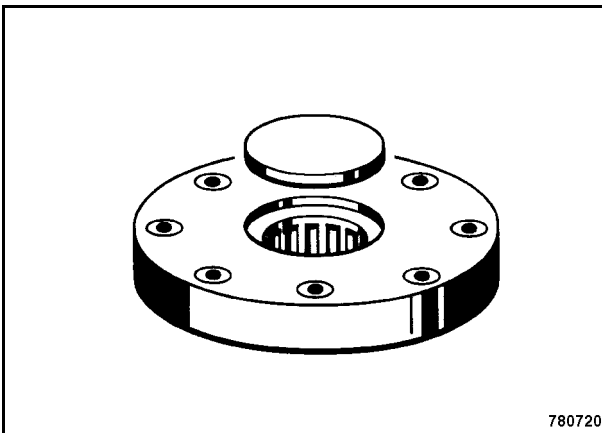

Fig. 18
28. Remove the cover (Fig. 18).